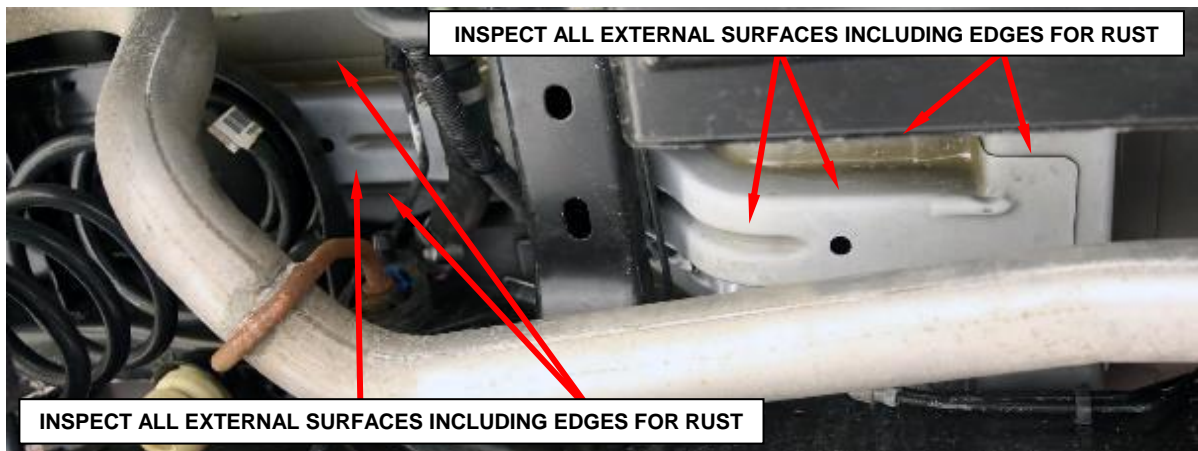
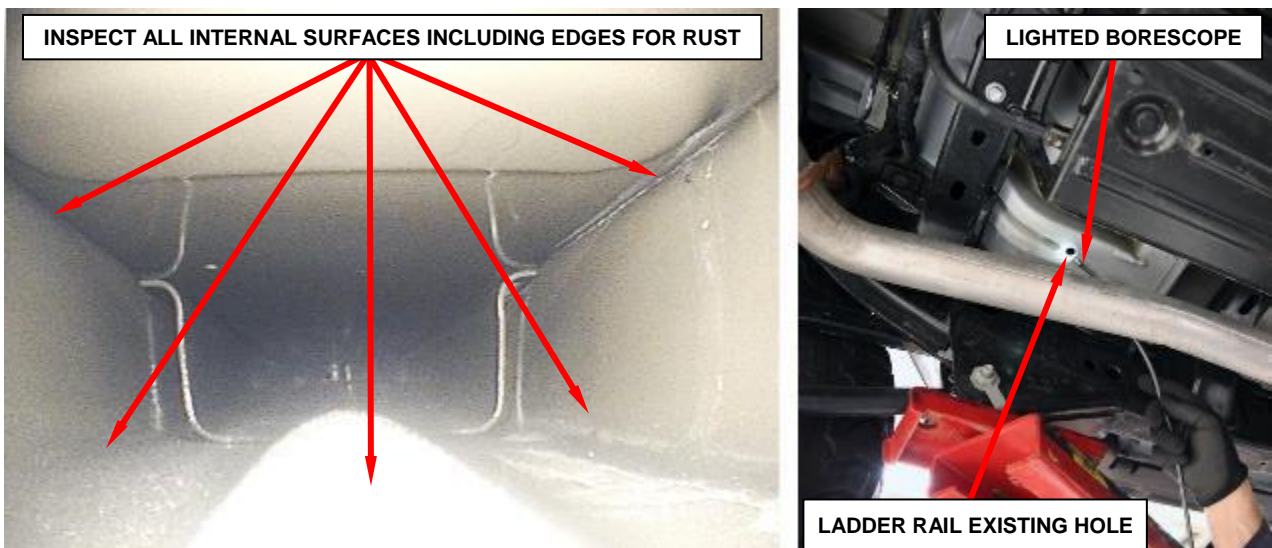

Figure 4 – Inspect Ladder Rail External Surfaces and Edges for Rust
Figure 5 – Inspect Ladder Rail Internal Surfaces and Edges for Rust
- 2. Inspect the left side rear longitudinal under body ladder rail for any visible red rust. Visually inspect the external surfaces and edges for rust (Figure 4). Use a lighted borescope inserted through the existing holes in the ladder rail to inspect the internal cavity surfaces and edges for rust (Figure 5).